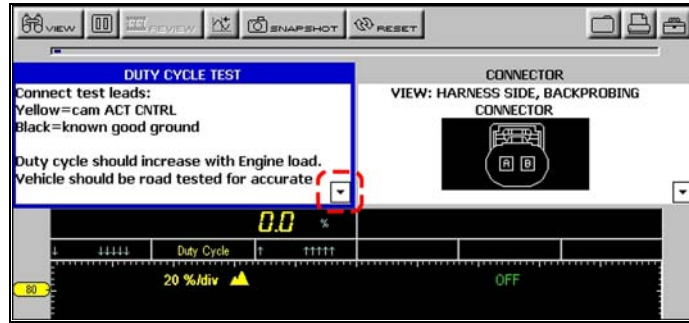

Figure 3-10 Thumb Pad instruction indicating more information
- Press the up ▲ or down ▼ arrow in the selected window (Figure 3-10) to display more information.